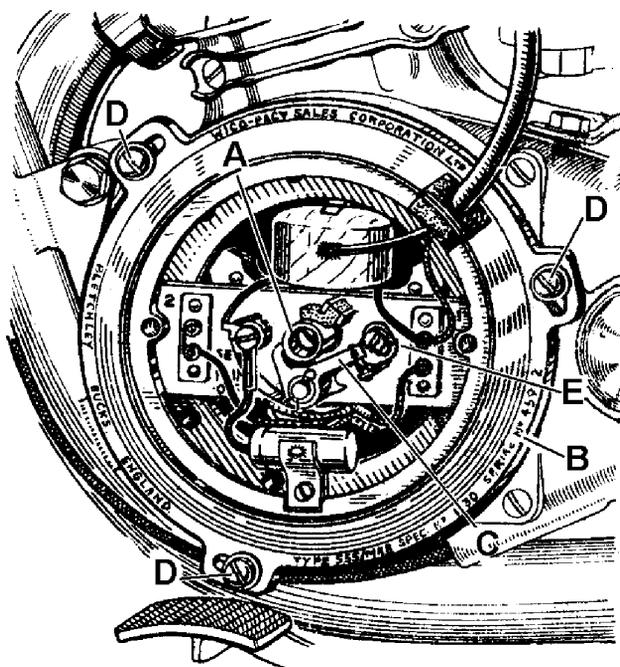

Fig. D4. *The contact breaker mechanism.*
On the nearside of the engine, three cheese-headed screws (D) Fig. D4, slotted for withdrawal with a screwdriver and located in elongated slots, and one screw (A) in the centre of the contact breaker mechanism, hold the ignition coil and contact breaker assembly cover in position.
Note that the screw (A) Fig. D4, in the centre of the contact breaker mechanism also secures the contact breaker cam which is keyed on to the mainshaft. The cam will fall from the shaft as the large alloy cover is withdrawn, and care must be taken to see that neither the cam nor its key is lost during this operation.